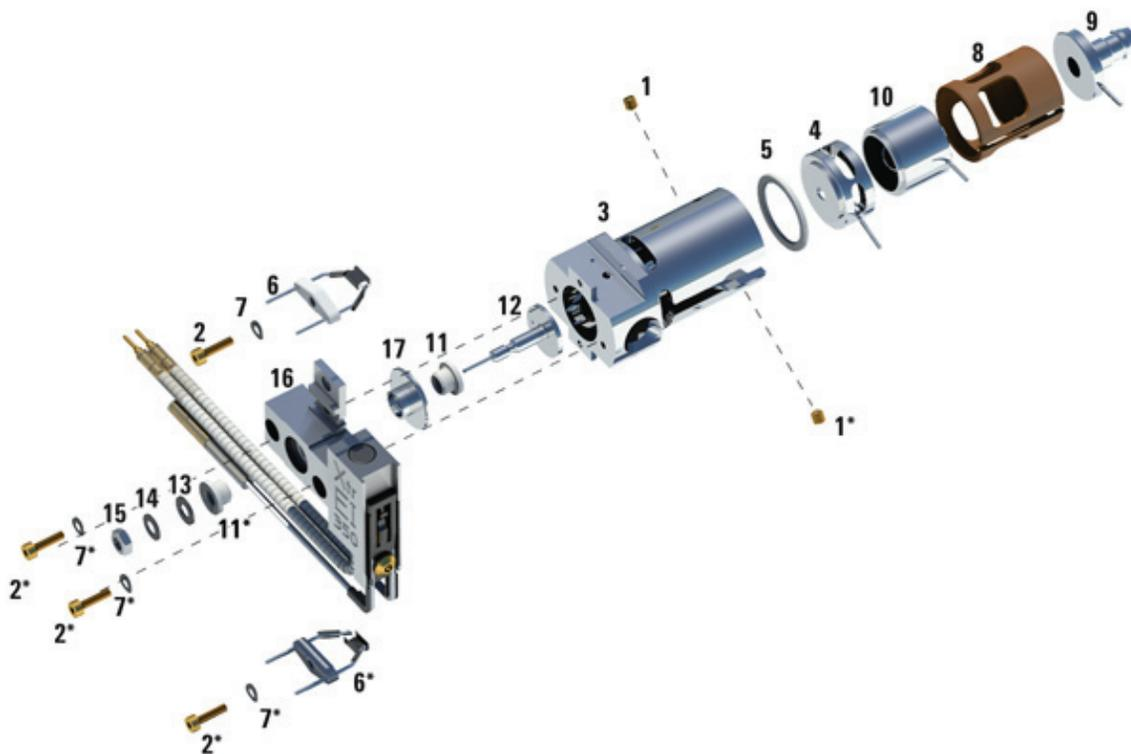

Figure 53. Disassembling the EI XTR source
Refer to the exploded parts view and the EI XTR parts list while using this procedure. (See **Figure 53** and **Table 17** on page 176.)
- 3 Separate the source heater assembly from the source body by removing the two screws. The source heater assembly includes the source heater, repeller, and related parts. (See **Figure 53** and **Table 17** on page 176.)
- 4 Disassemble the repeller assembly by removing the repeller nut, washers, ceramic insulators and repeller. (See **Figure 53** on page 176.)
- 6 Pull the lenses out of the source body and separate the lens insulator, ion focus lens, extractor lens, extractor lens insulator, and extended entrance lens. (See **Figure 53** on page 176.)
Table 17 Parts list for EI XTR source (Figure 53)
Table 17 Parts list for EI XTR source (Figure 53) (continued)